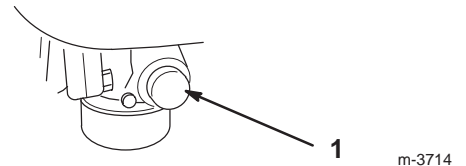

Figure 11
2. Push the primer three times, waiting two seconds between each push (Fig. 11).